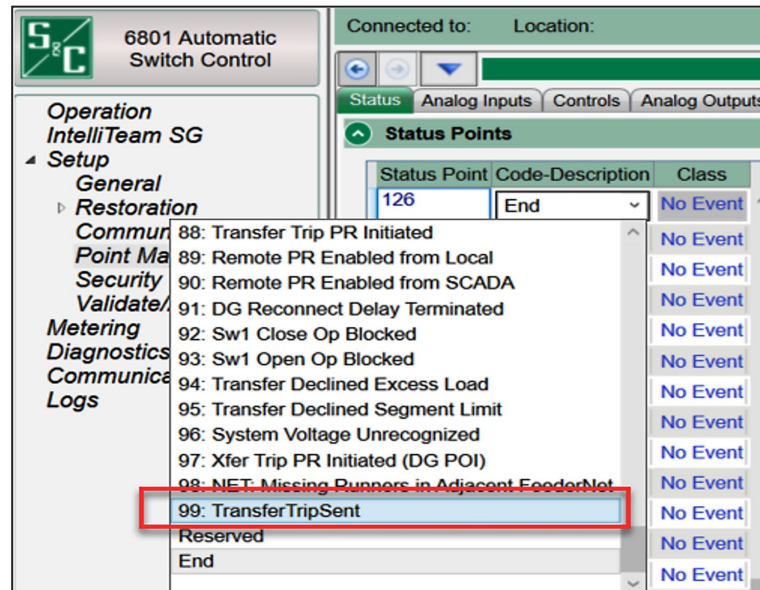

Figure 9. Mapping the Transfer Trip Enabled DNP status point.
STEP 7. Configure the **Transfer Trip Sent** DNP status point. This point goes active when a device sends a **Remote Transfer Trip** message via the Remote Transit list. See Figure 9.